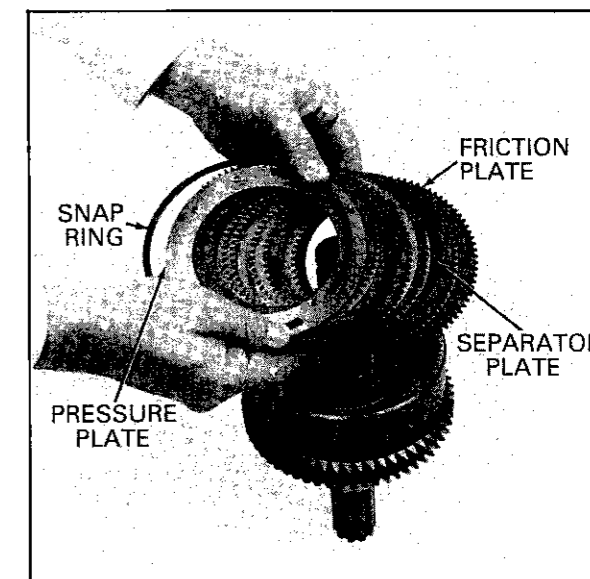

FIG. 15 PRESSURE PLATE AND CLUTCH PACK REMOVAL
20. Remove the pressure plate along with the friction and separator plates from both clutches (Fig. 15).